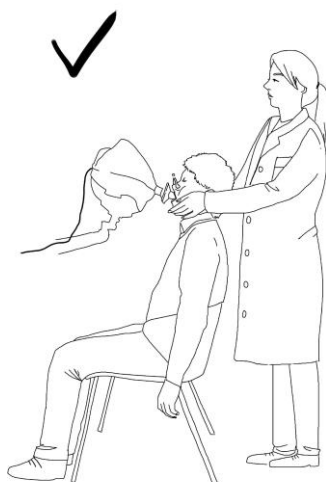

Figure 51 - Correct position for FOT measurement
- The patient should be sitting, back straight and neck slightly flexed upward. Adjust the height of the device so that correct patient position is assured. (Figure 51)